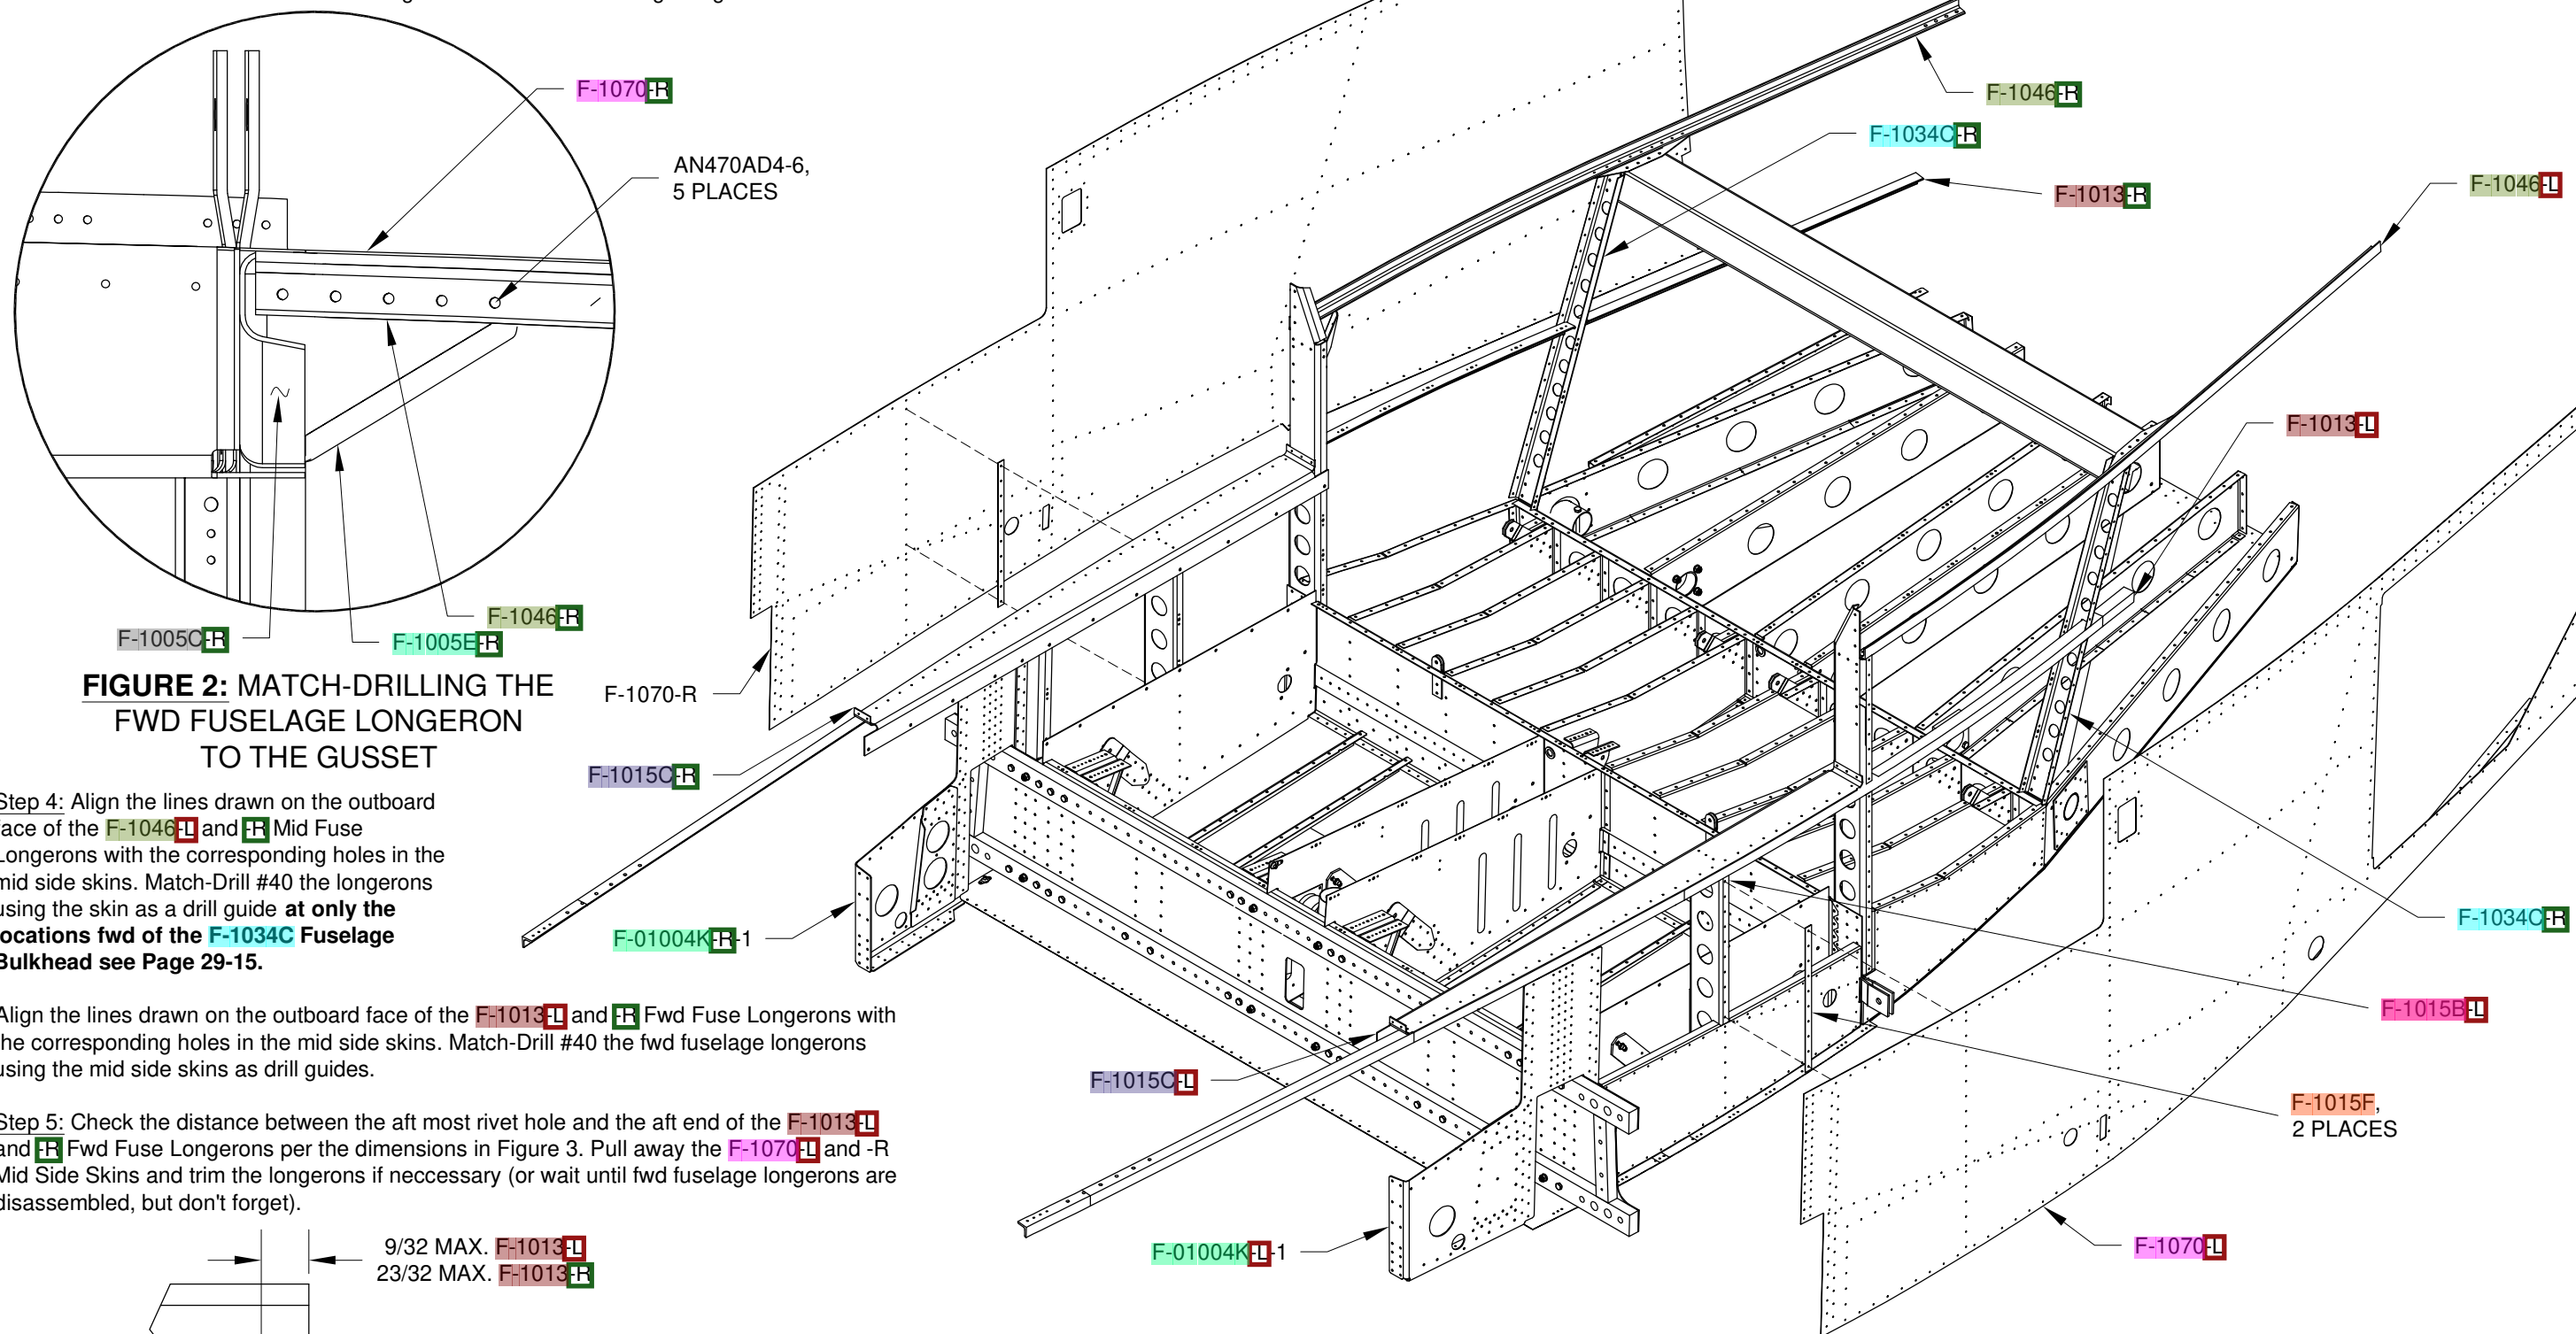

FIGURE 2: MATCH-DRILLING THE FWD FUSELAGE LONGERON TO THE GUSSET
Step 3: Position the **F-1046-R** Mid Fuselage Longerons on the **F-1005E-R** Gusset as shown in Figure 2. Clamp the parts together. Match-drill #30 and cleco the holes in the gusset into the mid fuselage longeron.